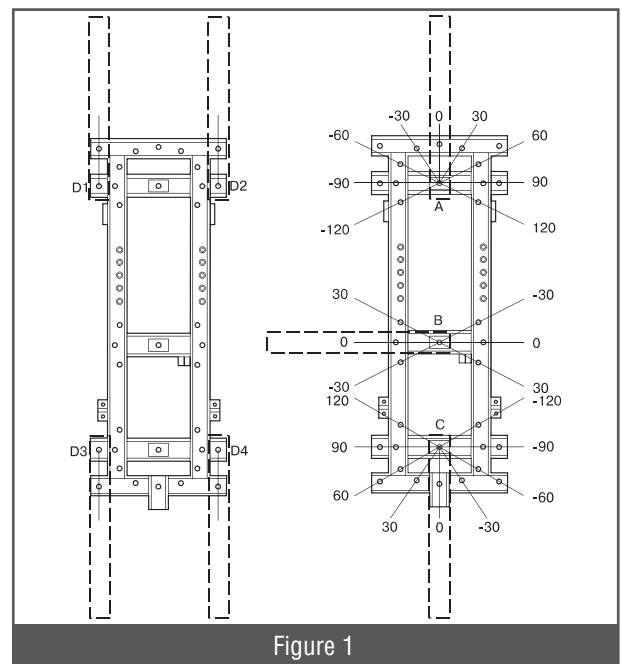

Figure 1
- There are following places of fixing pulling devices to the frame: A, B, C, D1-D4. A and C places provide 9 various positions, B – 6. Each of D1-D4 places of fixing pulling devices has one fixing position (Figure 1).